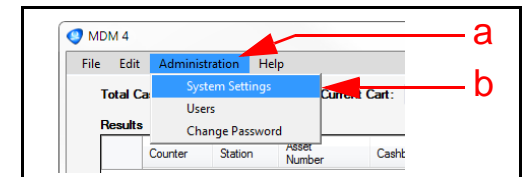
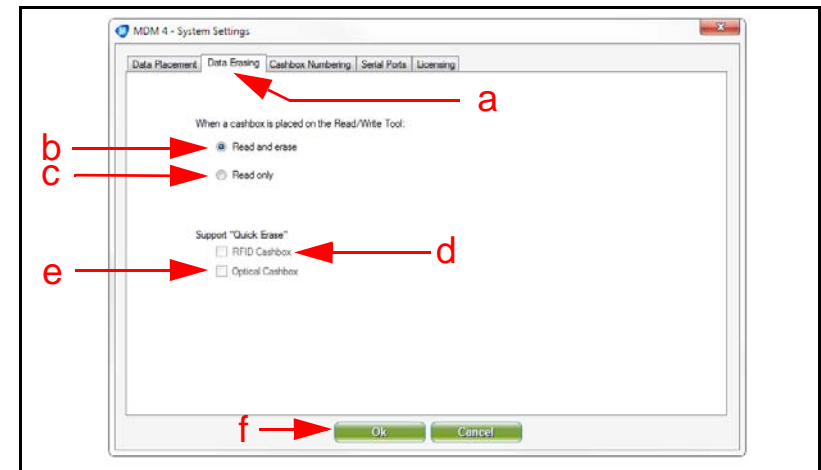

Figure 19 Select System Settings Menu 4
Figure 20 Select Data Erasing Options
1. Click on the 'Administration' pull-down Menu on the MDM4 Main Screen (Figure 19 a), and select 'System Settings' (Figure 19 b). When the 'System Settings' Screen appears, click on the 'Data Erasing' tab (Figure 20 a).
2. To use the 'Read and Erase Mode', click the 'Read and Erase' Radio Button  (Figure 20 b).
3. For 'Read Only Mode', click the 'Read Only' Radio Button  (Figure 20 c).
4. The Support "Quick Erase" feature allows an RFID Cashbox and/or Optical Cash Box to be docked faster. To enable this feature, click the 'RFID Cashbox' check box  (Figure 20 d) and/or the 'Optical Cashbox' check box  (Figure 20 e).
5. Click 'OK'  (Figure 20 f) to return to the MDM4 Main Screen.